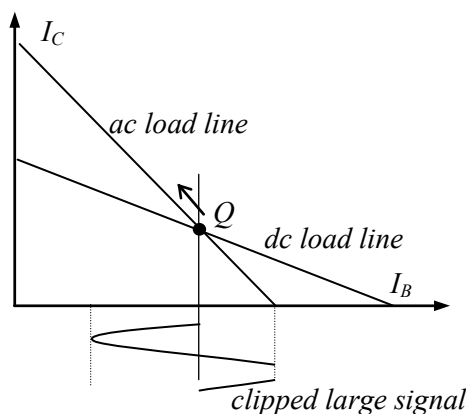

Fig. 2.10
**The dc and ac load lines.** The maximum unclipped peak-to-peak output of an amplifier is called an *output voltage swing* or *MPP*. Earlier, the dc load line was used to analyze biasing circuits. On the typical transfer characteristic shown in Fig. 2.10, which is the graph of the collector current versus the base current,  $Q$  point corresponds to the current gain  $\beta$  that is the slope of the curve at the point  $Q$ .
The ac load line helps to analyze large-signal operations. As is seen in Fig. 2.10, the saturation and cutoff points on the ac load line are different from those on the dc load line. In addition, the ac load line is steeper (has a higher slope) because the ac collector resistance is smaller than the dc one. The maximum load power occurs when an amplifier produces the MPP unclipped output as discussed earlier. Efficiency of an amplifier is equal to the ac load power  $P$  divided by the dc power from the supply  $P_S$  times 100 percent. The class A amplifiers have poor efficiency, typically well under 45 percent. This is because of power losses in the biasing resistors, the collector resistor, the emitter resistor, and the transistor.